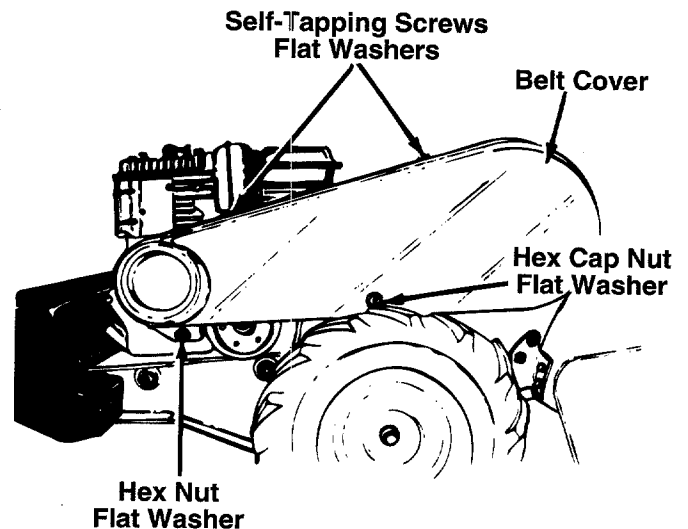

FIGURE 20.
2. Remove the belt cover from the left side of the tiller as follows. See figure 20.